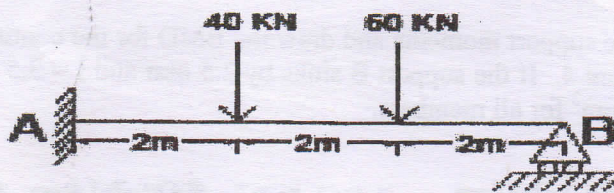

Fig.1
- II. Determine the reaction components in the beam shown in figure 1. EI is constant throughout.